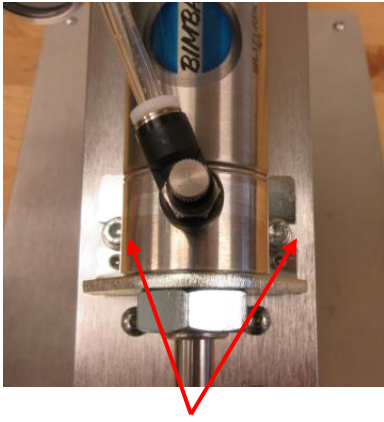

Figure 8: Front cylinder bracket screws
- Remove the two front cylinder bracket screws with a 4mm hex wrench and rotate the cylinder up. (Fig 8,9)